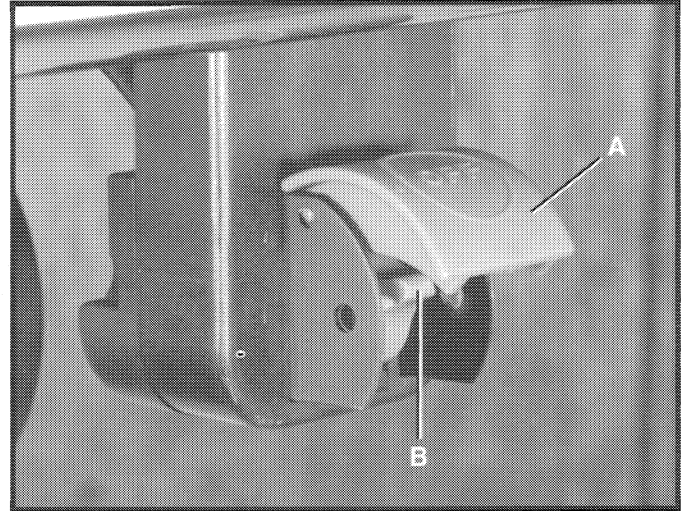

Fig. 61
1. The on-off switch is located underneath the switch shield (A) Fig. 61. To turn the saw "ON," move switch trigger (B) to the up position.
2. To turn the saw "OFF," simply push down the switch shield (A) Figs. 61 and 62.